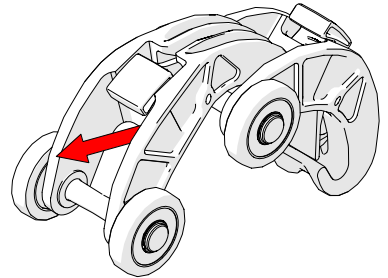

Fig. 71 - Pull the link backwards to secure catch
2. Pull the QuickLink until you hear a click that ensures the latch has been set (*Fig. 71*).